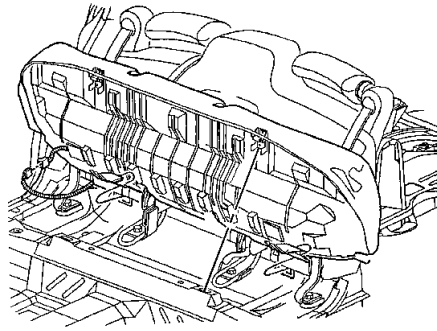

Fig. 1 Rear seat cushion removal
4. Remove rear seat cushion, **Fig. 1**.
6. Install rear seat cushion, **Fig. 1**.